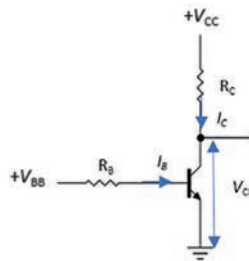

Figure 5.26 Ch 5: No. 6, self-test
6. Calculate the values of I_C and V_{CE} in Figure 5.26. Determine whether the circuit is midpoint biased. Given R_B is $30\text{ k}\Omega$, R_C is $300\ \Omega$, V_{BB} is 5 V , V_{CC} is 15 V , $R_B = 30\text{ k}\Omega$, $R_C = 300\ \Omega$, $V_{BB} = 5\text{ V}$, $V_{CC} = 15\text{ V}$, and β_{DC} is 100. (Assuming a silicon BJT)